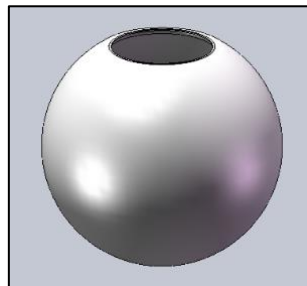

FIG.5 ACRYLIC GLOBE
2. ACRYLIC GLOBE. (shown in FIG. 5)